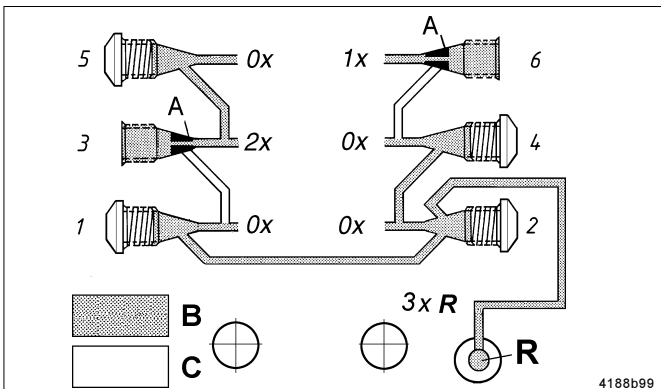

Fig. 5 - Internal feedback of supplied lubricant, only on back-side mounted SSV divider blocks (from serial No. 998000100C/001)
- For instance (see Fig. 5) the lubricant from outlets 1, 2 and 4 will be internally feed back to the reservoir, outlet 3 will have double amount and outlet 6 will have single amount of lubricant.